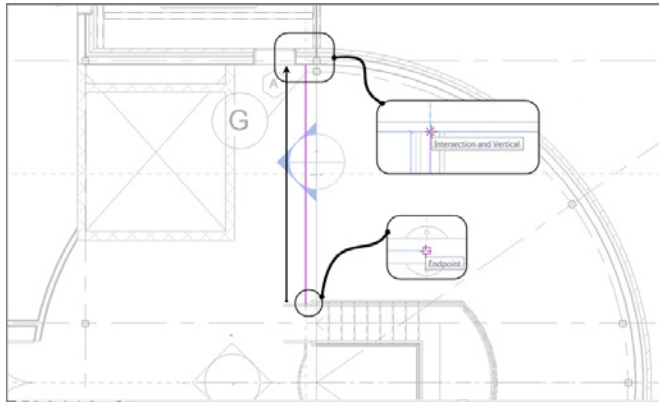

FIGURE 10.29: Creating the northern railing
8. Draw another railing, as shown in Figure 10.29.